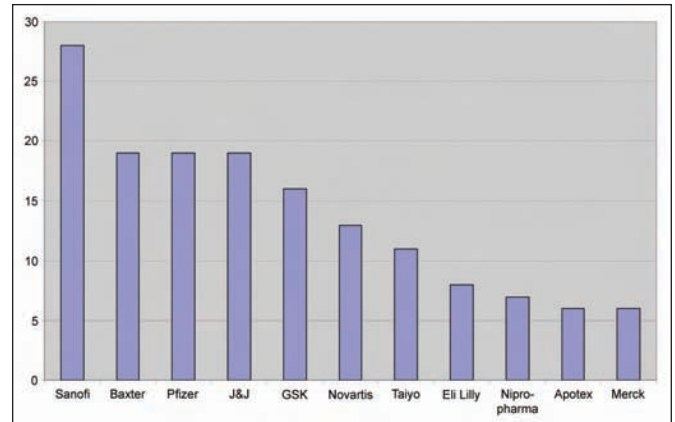
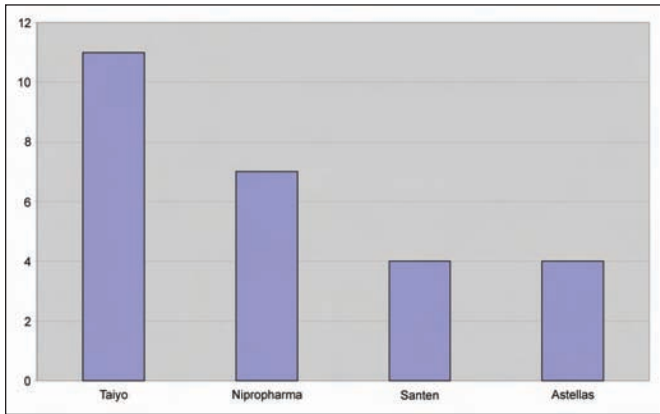

Figure 5. Barrier isolator filling lines – companies with highest usage. *Continued on page 52.*
Figure 6. Barrier isolator filling lines – companies with highest usage (Asia only).
Some companies embrace technology while others wait. Figure 5 shows companies who have most aggressively embraced the use of isolators. Figures 6 to 8 show the regional breakout information. Table E displays the increasing number of pharmaceutical companies using isolators (99).